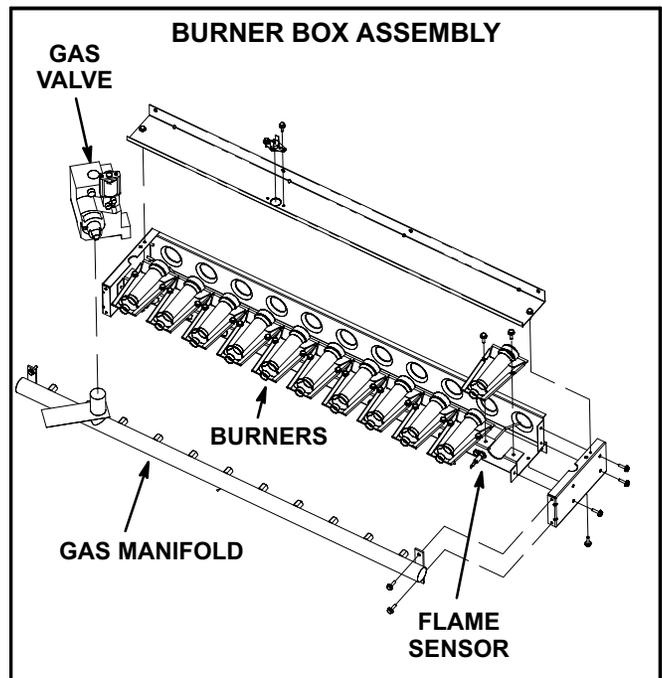

FIGURE 16
- 3- Remove two screws securing burners to burner support and lift the burners from the orifices. See figure 16. Clean as necessary.